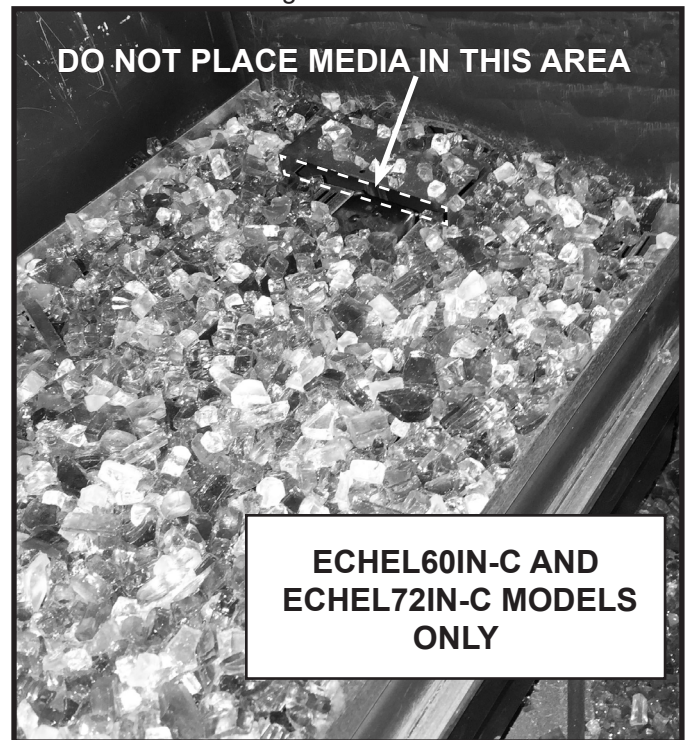

Figure 7. Media Placement Restriction Area
- ECH60IN-C and ECH72IN-C ONLY:** **DO NOT** place media in front of opening on right side of the burner (60 and 72 only). Flame appearance will be affected. See Figure 7.